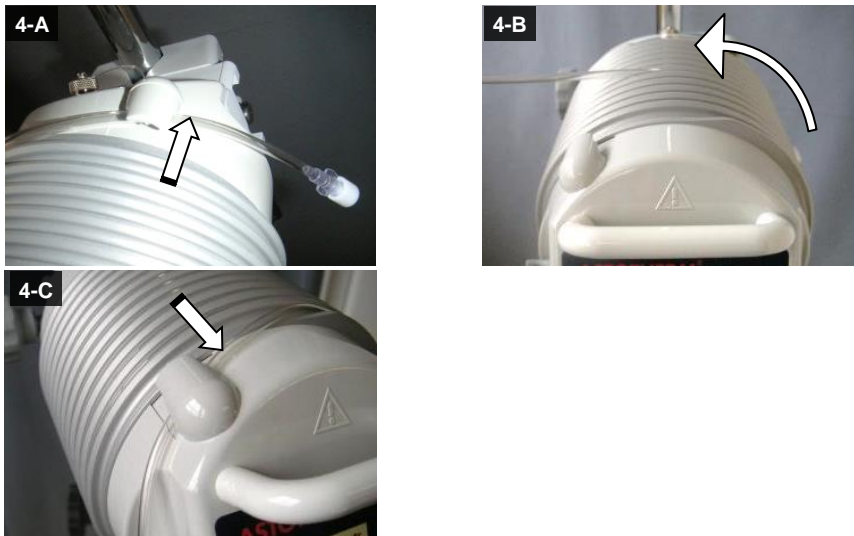

Fig. 4: Inserting the infusion extension
1. Clip the IV end of the infusion extension (female Luer Lock) into the rear tube holder (fig. 4-A).
2. Starting from the back, wind and insert the infusion extension in a counter clockwise direction up and around into the circumferential groove of the heat exchanger (fig. 4-B). Gently pulling makes it easier to insert and improves the seating of the infusion extension.
3. After leaving the last circulation, clip the infusion extension into the front tube holder (fig. 4-C).